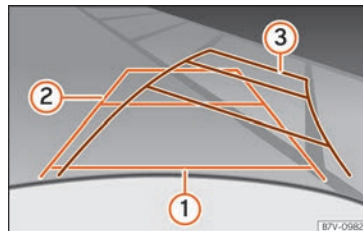

Fig. 255 Display: orientation lines for the parking space behind the vehicle
Meaning of orientation lines displayed on the screen >>> Fig. 255. All of the lengths of the orientation lines use a vehicle located on a horizontal surface as reference.
- Reverse slowly and turn the steering wheel so that the yellow orientation lines guide you towards the space »» Fig. 255 ③.